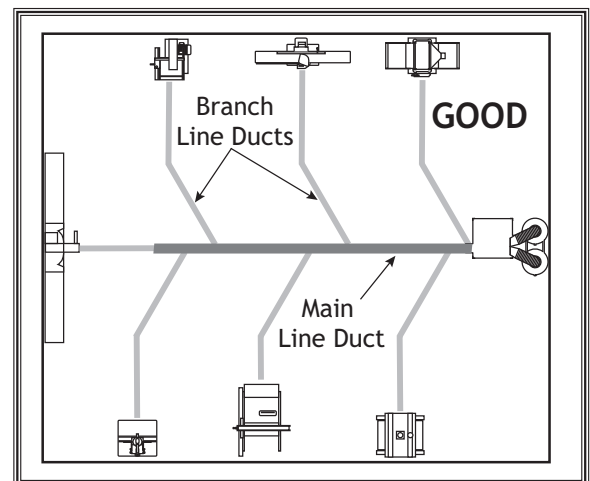

Figure 44. Good duct layout.
2. Ideally, you should design the duct system to have the shortest possible main line and secondary branch ducts. See **Figures 44 & 45** for ideas of good duct layouts vs bad duct layouts.